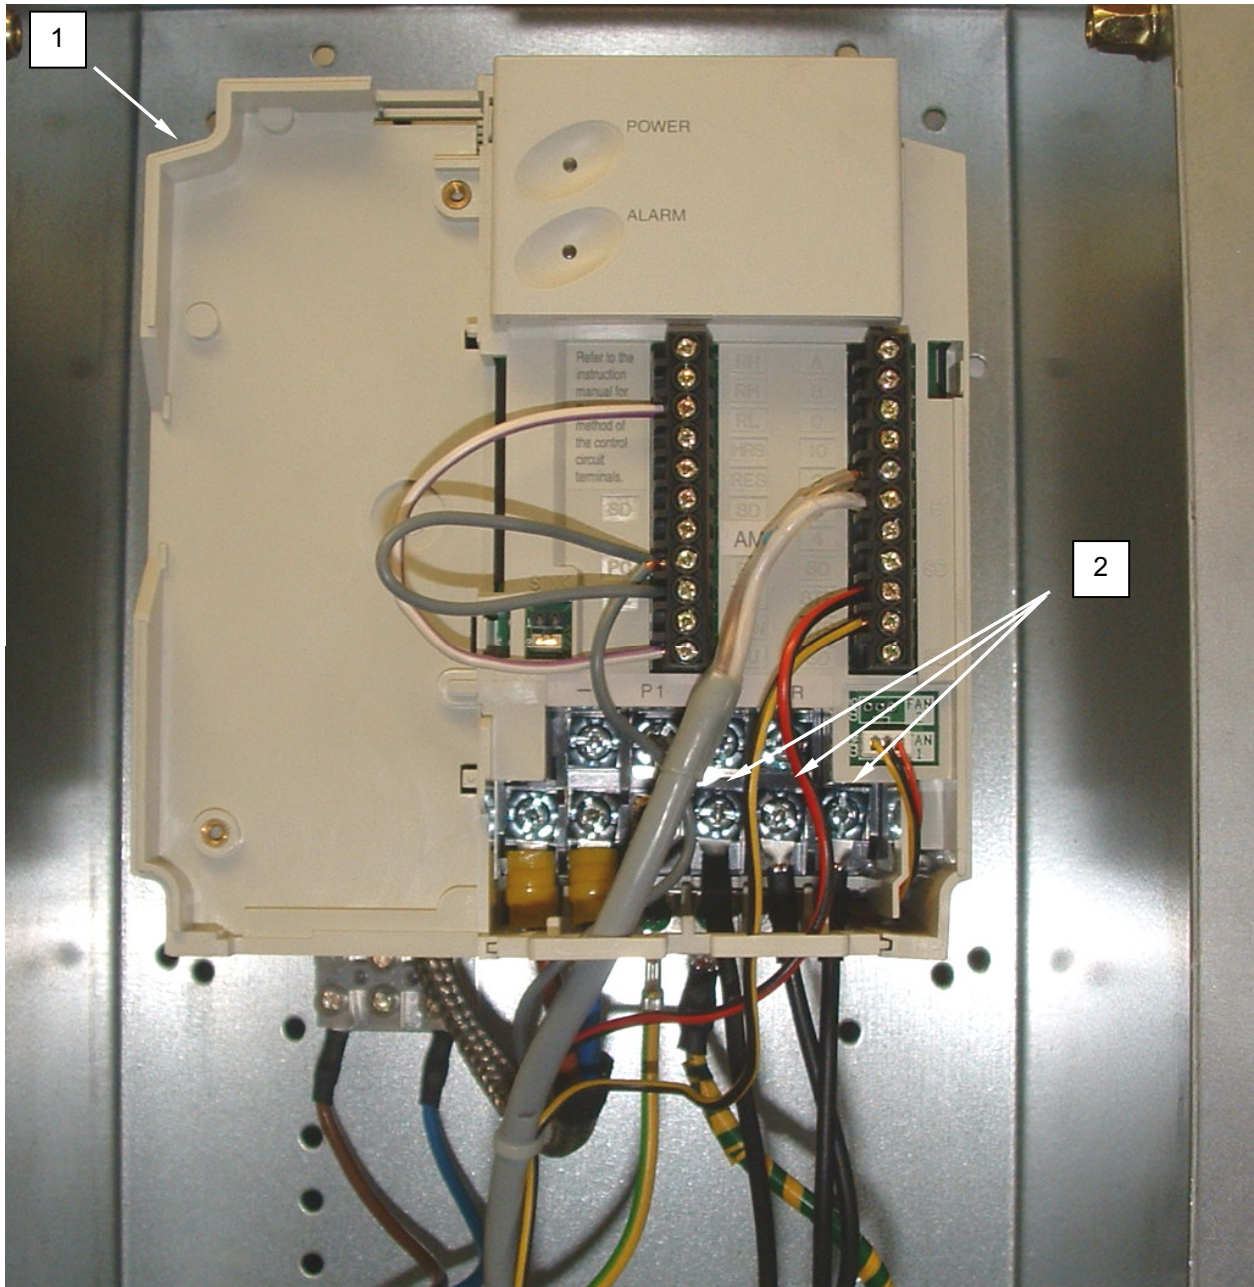

Figure 1. Test the Washer Motor.
1. Remove the cover from the variable frequency drive (**Figure 1, Item 1**) IAW procedures given in WP 0041 00.
2. Tag and disconnect the wiring from the 1, 2, and 3 terminals (**Figure 1, Item 2**) on the variable frequency drive.